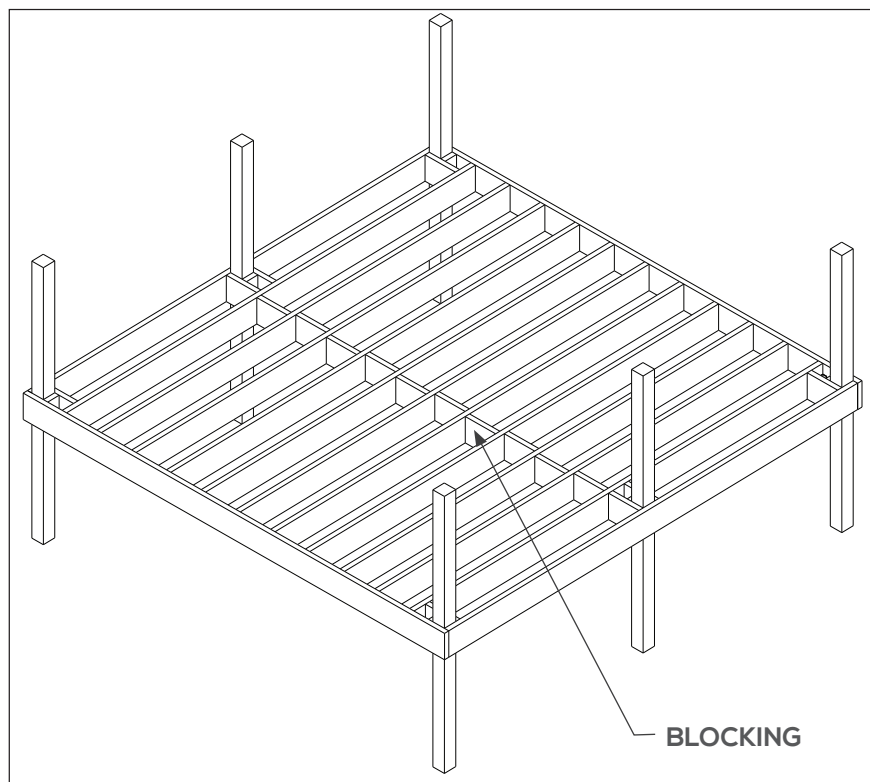

Figure 1
2. It is recommended to build your deck substructure with a slope away from your structure (house, etc.) of one (1) inch for every ten (10 feet) for water shedding.
4. Intermediate blocking between joists should be installed at no greater than 6-foot intervals. See figure 1 above.
6. The above illustration represents the typical substructure construction at completion. (Fig. 1)